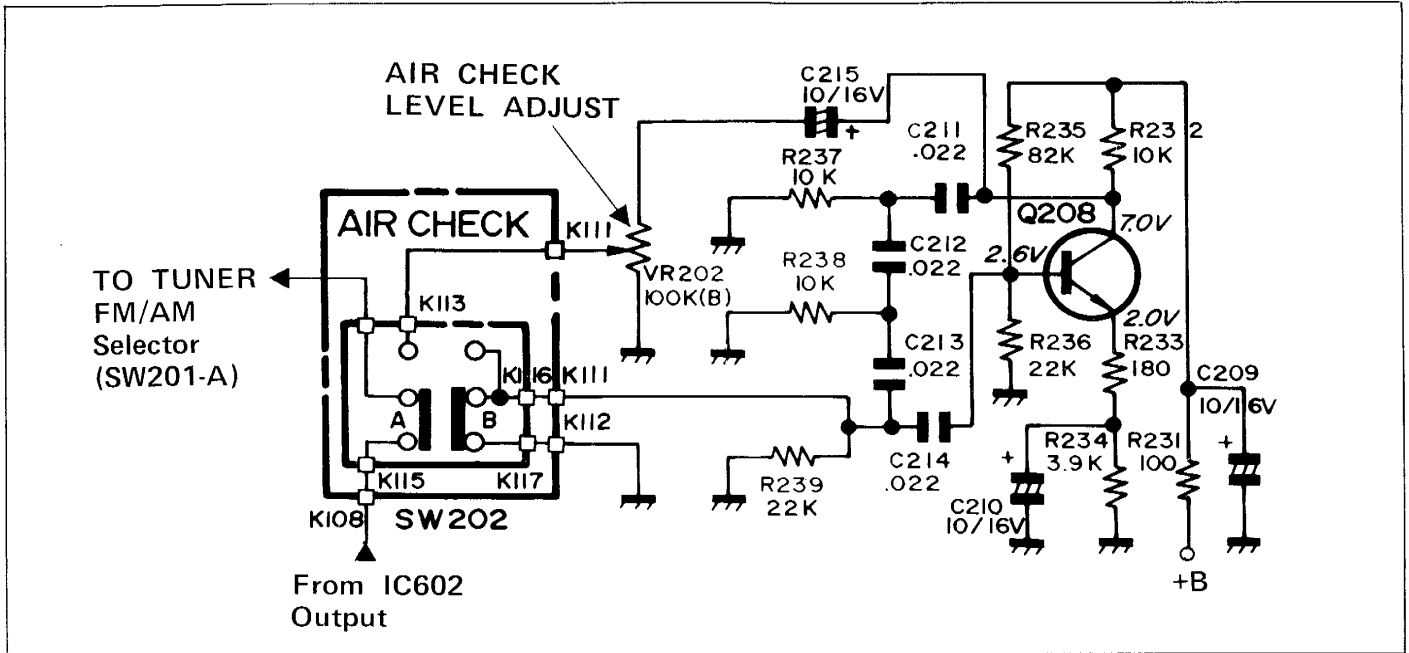

Figure 12 AIR CHECK CALIBRATOR CIRCUIT
**AIR CHECK CALIBRATOR CIRCUIT** (Refer to Figure 12)
This circuit is to make appropriate the recording level in advance when recording FM broadcast into the tape recorder. The circuit shown in Figure 12 hereof is CR type oscillator circuit to be used for the air check calibration (about 400 Hz). In other words, when the "air check" switch at the front panel is set to "ON" position, and it appears at the output socket at the rear panel being as air check signal level. The air check signal level is set to  $60 \pm 8\%$  of the output voltage obtained when the tuner receives FM broadcast signal (modulation 100%, 75kHz deviation) and this level voltage appears at the output terminal of the rear panel through the air check os-